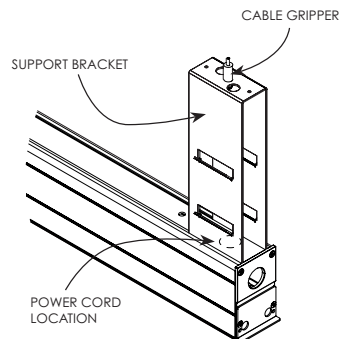

Fig. 1
1. Attach cable grippers to support bracket located on each end of the luminaire using a Philips head screw (See figure 1)
1. Attach cable grippers to support brackets located on each end of the all luminaires using a Philips head screw (See page 3 figure 1)